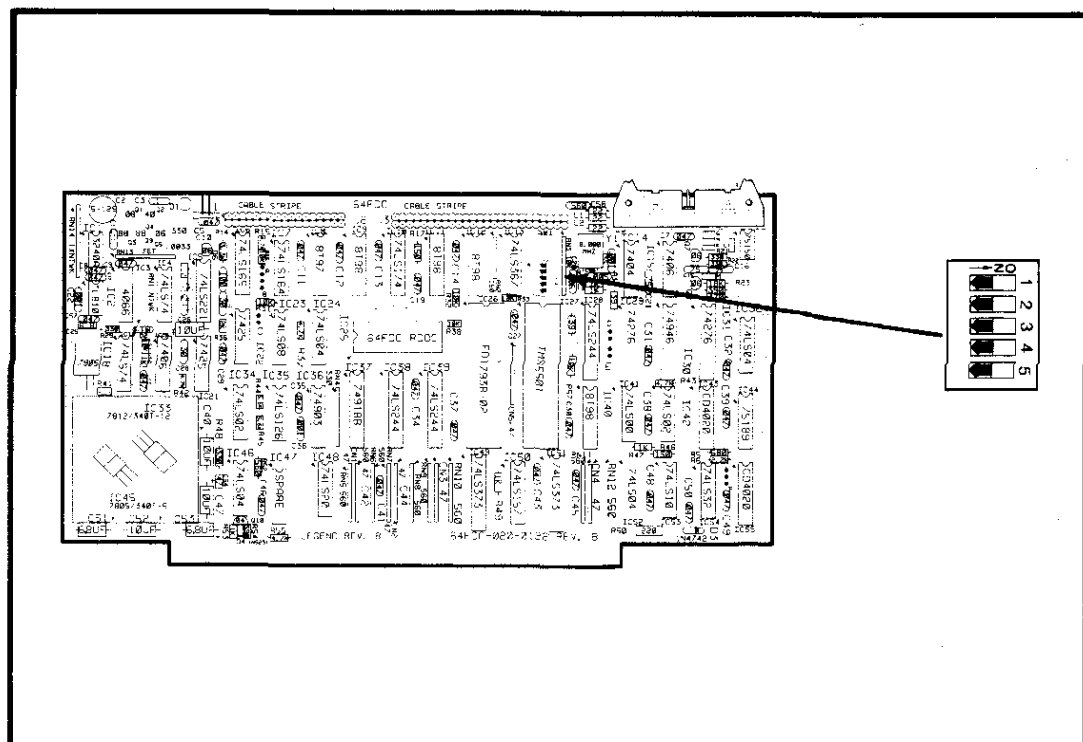

Figure F-8: SWITCH SETTINGS FOR THE 64FDC BOARDS
**64FDC Board** - This is the interface board for the floppy disk drive(s). This board comes with all models. All switches should be OFF, as shown in Figure F-8.